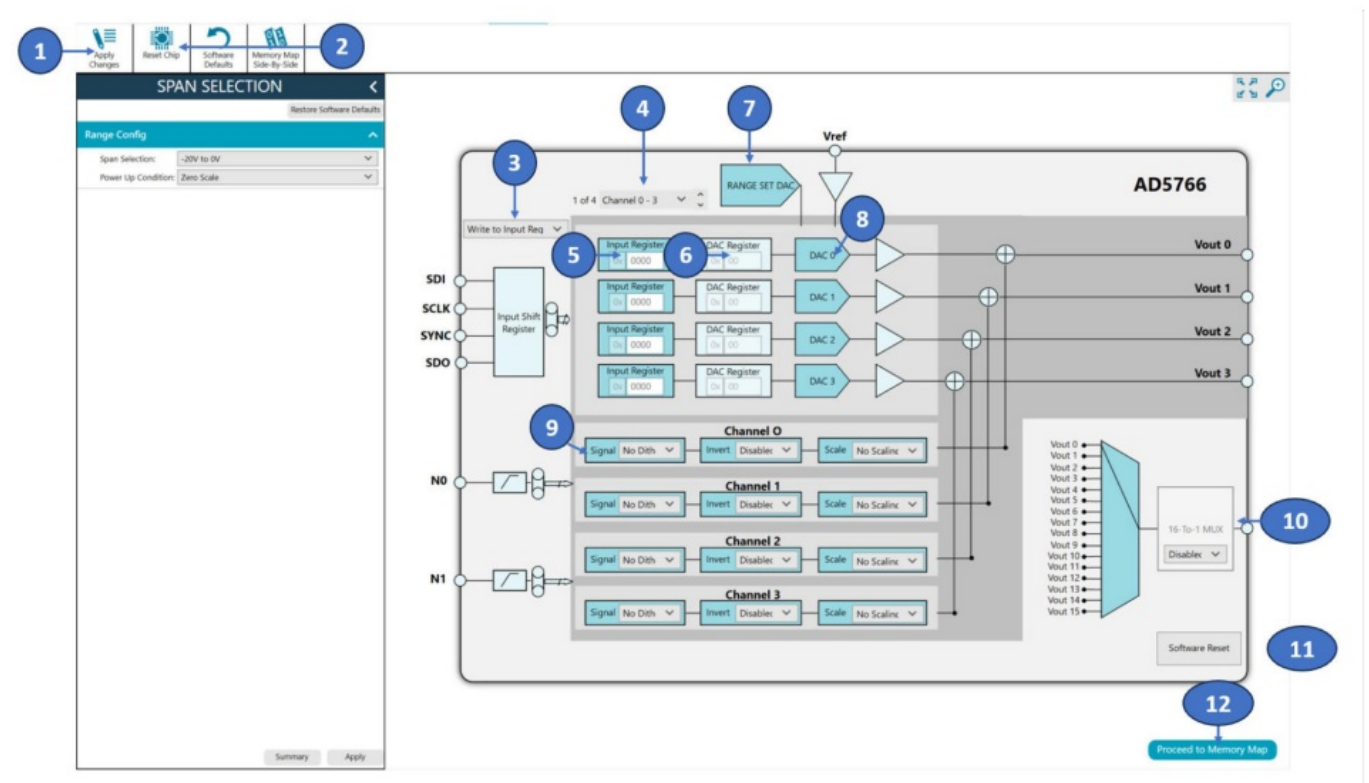

Figure 8. Main Window for the EVAL-AD5766ARDZ ACE Software
- Click Proceed to Memory Map (Label 12 in Figure 8) to open the AD5766 Memory Map tab and allow access to all registers (see Figure 7). The hardware registers on the AD5766 or AD5767 are not altered until the Apply Changes button is clicked.
For a detailed description of all GUI options, see Figure 8 and Table 6.
¹ See Figure 8